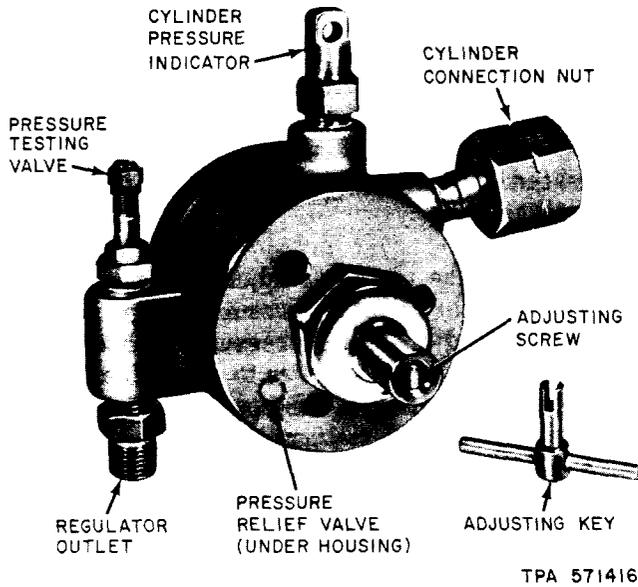

Fig. 4—D Pressure Testing Regulator
3.06 ⚡The D Pressure Testing Regulator weighs approximately 6 pounds and has overall dimensions of approximately 7 by 6-1/2 by 6-1/2 inches. It may be supplied in either of the two designs illustrated in Fig. 4 and 5.⚡